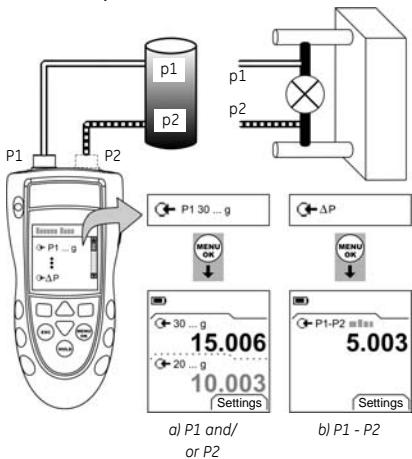

Figure 2: Example configuration - Measure pressure
1. Connect the instrument (Figure 2) and, if necessary, adjust the Set Up (Table 1).
The examples in Figure 2 show:
1. Connect the instrument to the pressure standard (Figure 2).